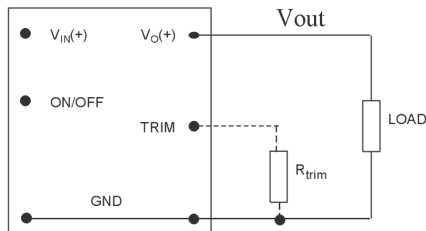

Figure 1
Voltage adjustability (4) , V (see fig.1)	0.7525-5.0